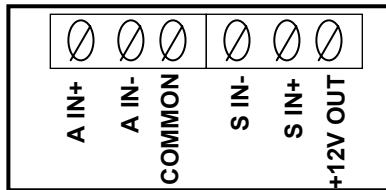

Figure 8
6. Insert one of the sensors signal output wires into the **COMMON** terminal and secure the wire by turning the terminal's screw clockwise. (Refer to the *MX001* box or to *Figure 8* for the order of the terminals for the sensor wires.)